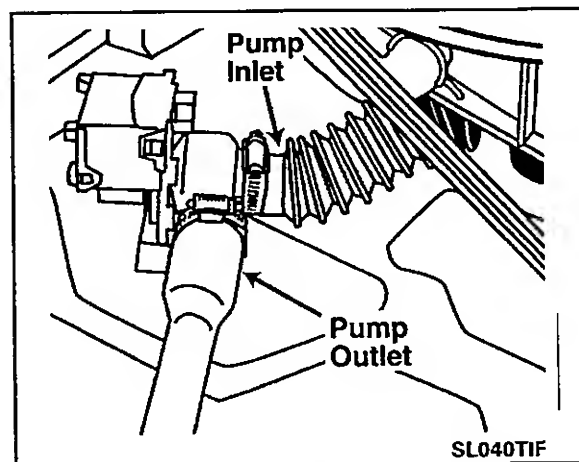

Figure 6-8
2. Disconnect the drain hose from the existing pump in the washer (*Figure 6-8*).